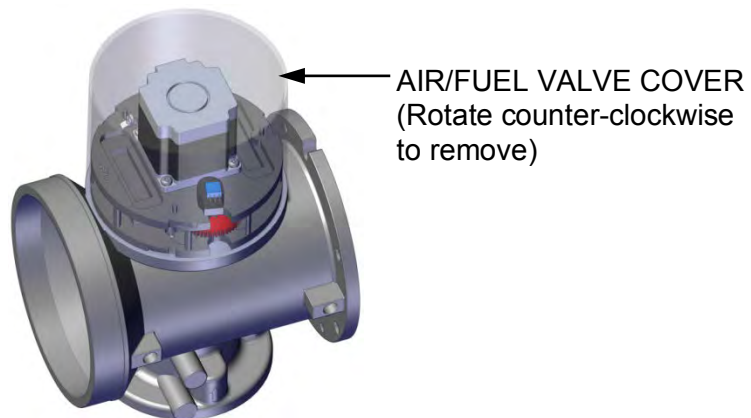

Figure 6-7: Air/Fuel Valve Cover Location
3. Remove the Air/Fuel Valve cover by rotating the cover counterclockwise to unlock it (see Figure 6-7).
3. Remove the Air/Fuel Valve cover (Figure 6-7, above) by rotating the cover counterclockwise to unlock and lift up to remove.